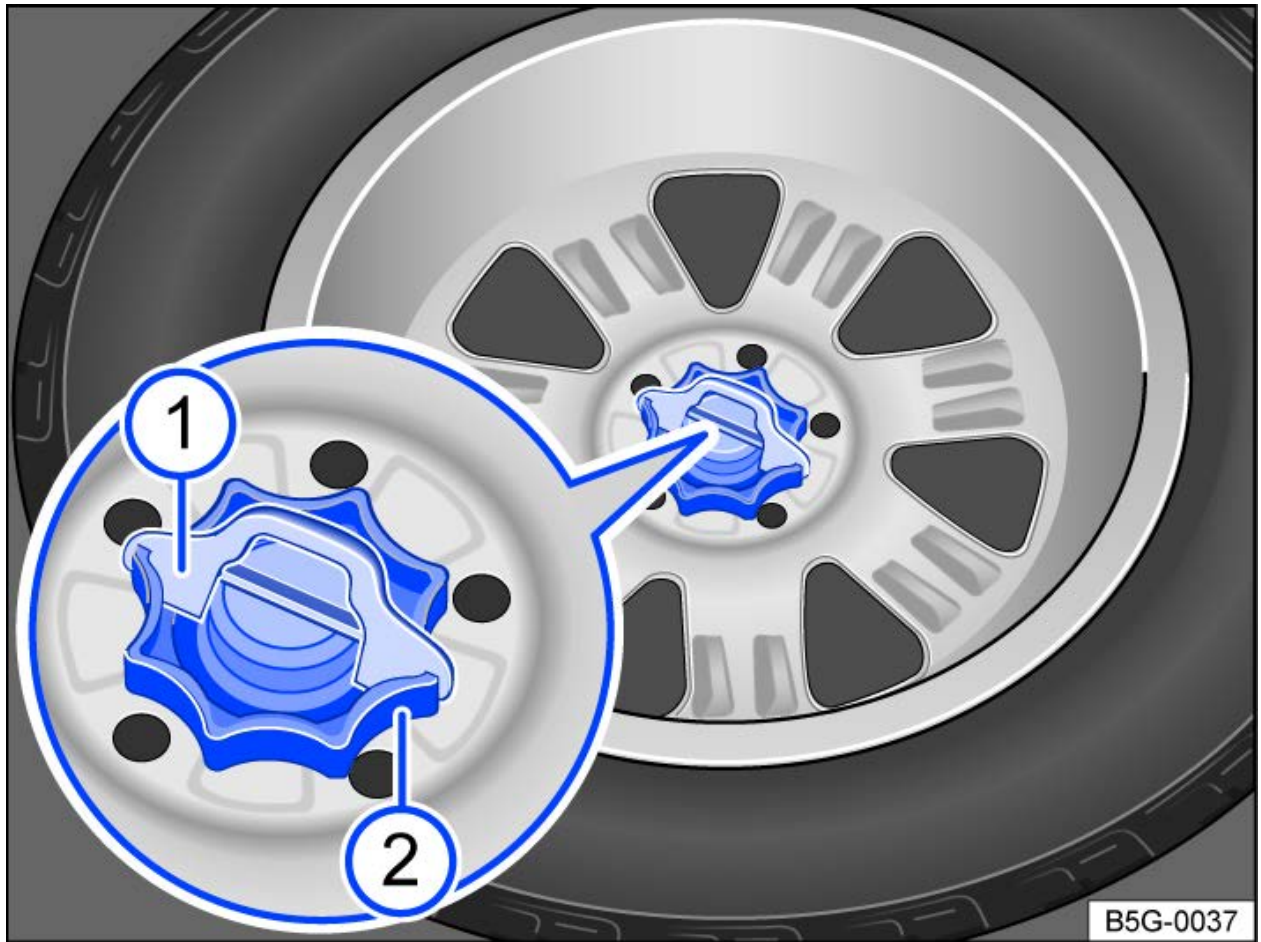

Fig. 1 In the luggage compartment: handle to secure the compact spare wheel.
- Remove the locking wedge → *fig. 1* ① upward.
- Turn the handle in the center of the spare wheel → *fig. 1* ② all the way counterclockwise.